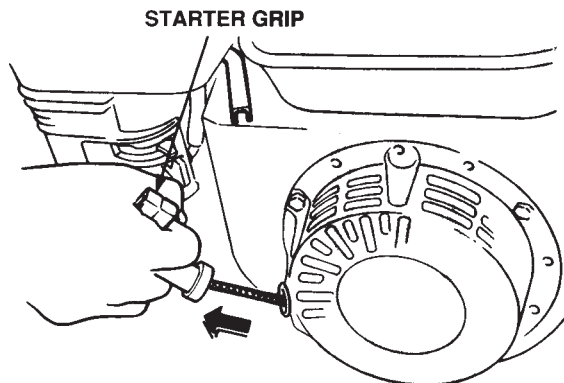

Figure 22. Starter Grip
- Grasp the starter grip (Figure 22) and slowly pull it out. The resistance becomes the hardest at the compression point. Pull the starter grip briskly and smoothly for starting.